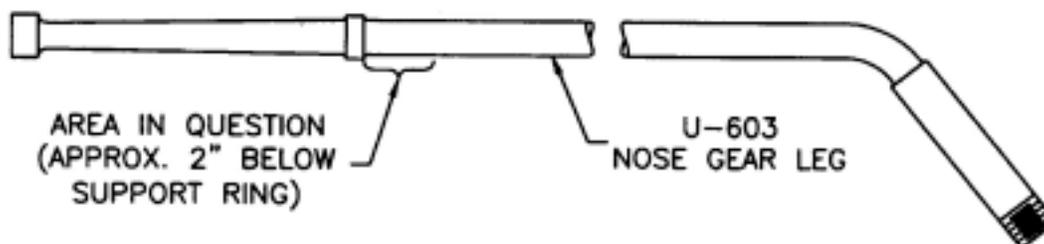

FIGURE 1
3. Polish the full circumference of the area in question (see figure 1) to remove any superficial surface blemishes. Use strips of progressively finer grit sandpaper or emery cloth. The abrasive strips should be worked over the area in question using a back-and-forth motion much like when using a soft rag to polish a shoe.